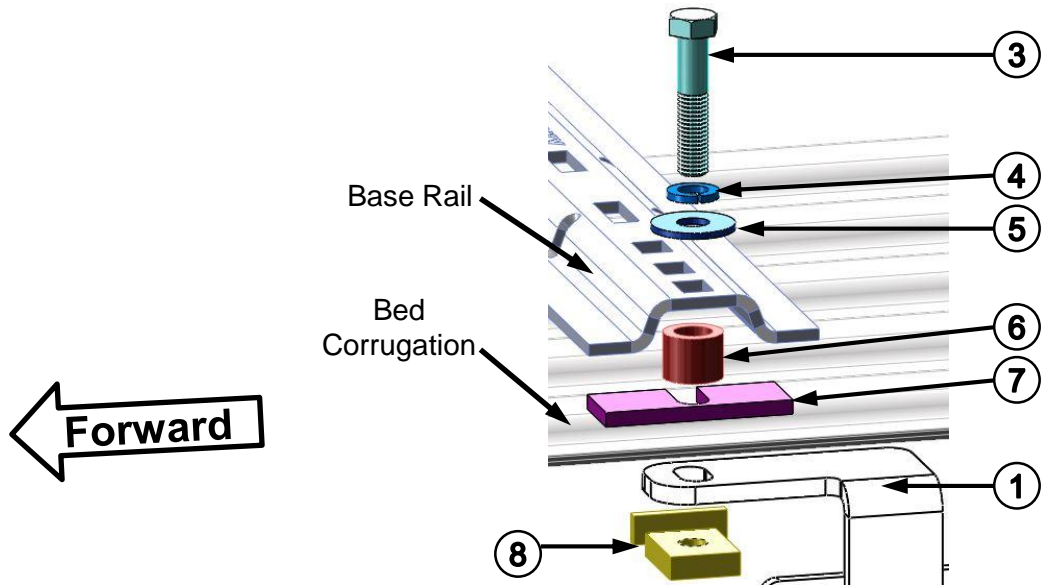

Figure:4 **Driver Side Front Shown**
10. Reposition the bed rails in the bed so that the square 5/8" hole in the end of each rail is lined up over the drilled holes. Place a 1" spacer tube (#6) under ends of each bed rail, in line with the drilled holes as shown in fig.4.